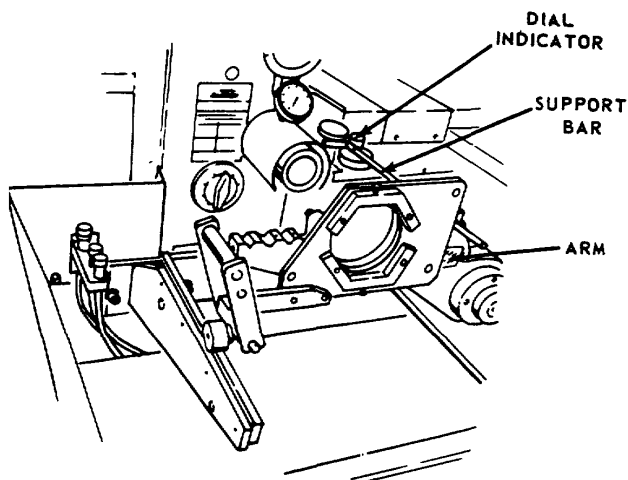

FIGURE 105
- a. See Figure 105. Insert Torque Support Bar or Oil Support Bar (whichever fits your Dial Indicator) into clamp groove.